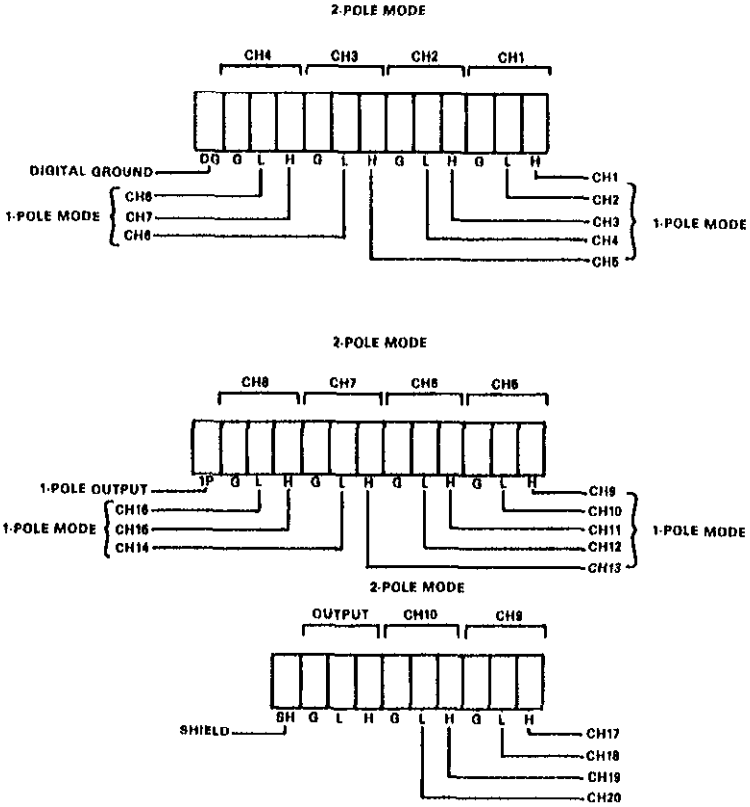

Figure 3. 1-Pole Mode Channel Numbering
- D. 1-Pole Configuration—The Model 705 can be used in the 1-pole configuration by utilizing front panel program number 6 on the Model 705 mainframe. Refer to the Model 705 instruction manual for information concerning the front panel programs. Generally, the 1-pole configuration is used for applications where a user can use a single common ground in the measurement. The channel numbering for the 1-pole configuration is shown in Figure 3. The 1-pole output is taken from the 1P connector to ground on the Model 7056.